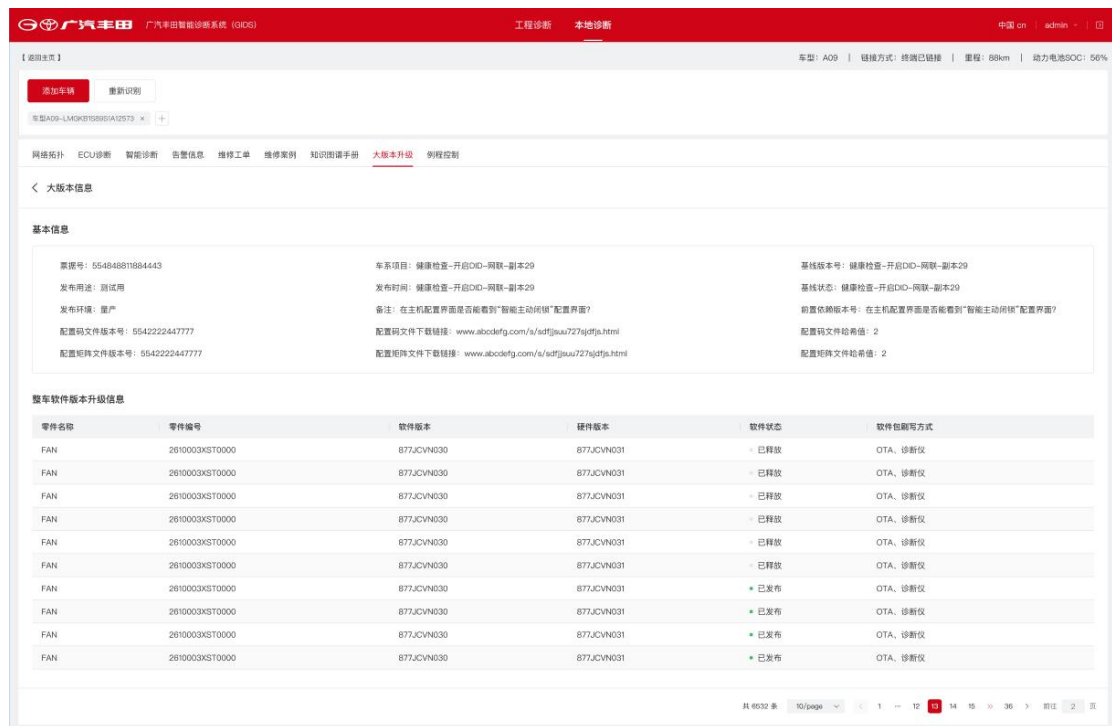

Figure 6-2 Major Version Details
2. In the Major Version list, select the version details to view and click "Details", as shown in Figure 6-2 Major Version Details, to display the major version